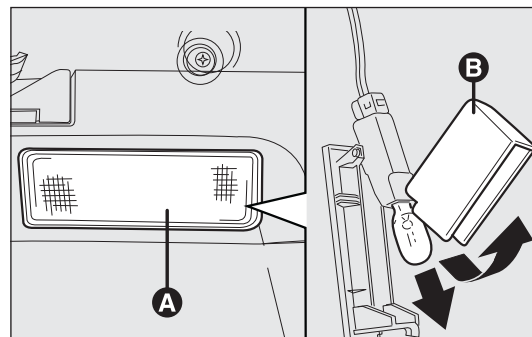

fig. 185
## BOOT LIGHT fig. 185
- remove the light A-fig. 185 by levering on the point shown by the arrow.